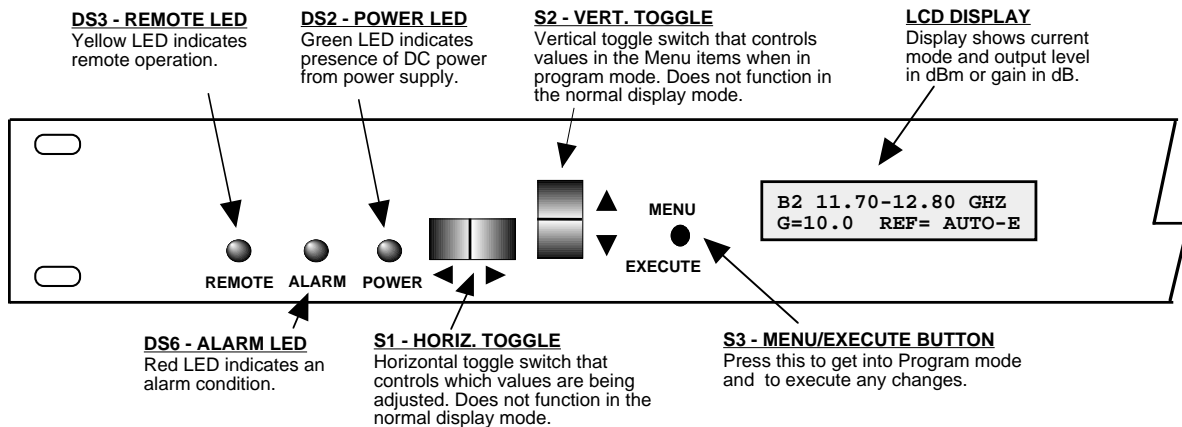

FIGURE 2.2 3115-21-109# Front Panel Controls and Indicators
Figure 2.2 shows the front panel controls and indicators.
5. Be sure DS2 (green, DC Power) is on and DS6 (red, Alarm) is off (Figure 2.2).
Alarm indications appear on the LEDs (see Figure 2.2).